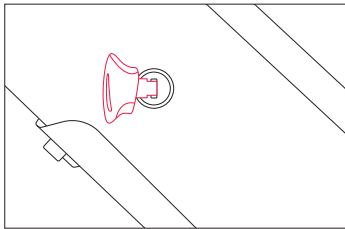
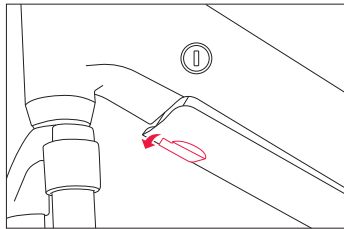

Figure 3
Figure 4
**Step 2:** Use the key to unlock the battery (fig. 3). While holding the battery with one hand, detach the battery by turning the release switch located on the underside of the frame (fig. 4).